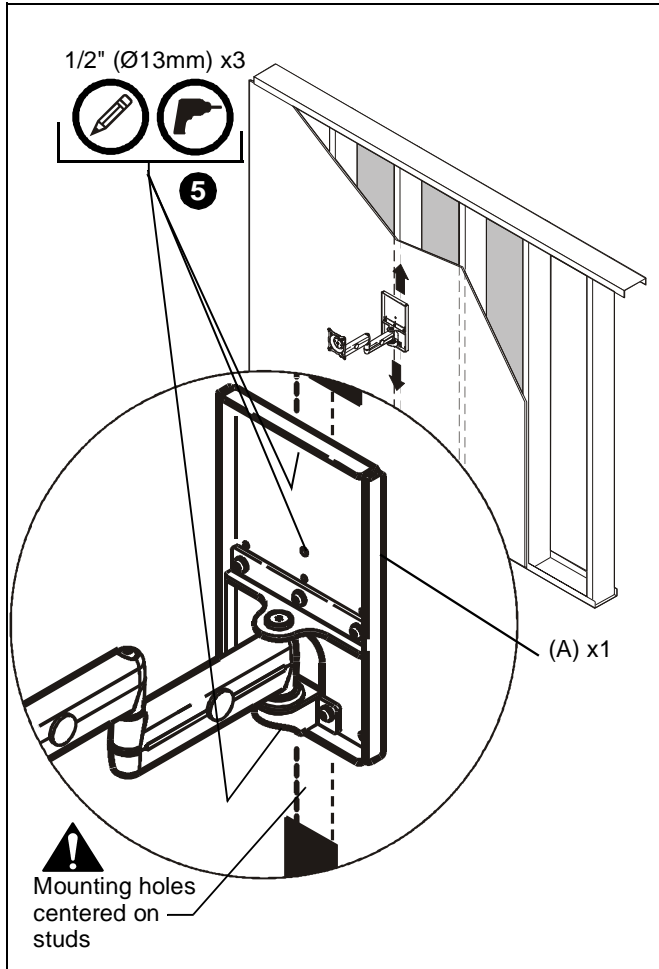

Figure 2
3. Align mounting holes in mount with studs making sure mounting holes are centered on studs. (See Figure 2)
5. Drill three 1/2" (Ø13mm) holes. (See Figure 2)